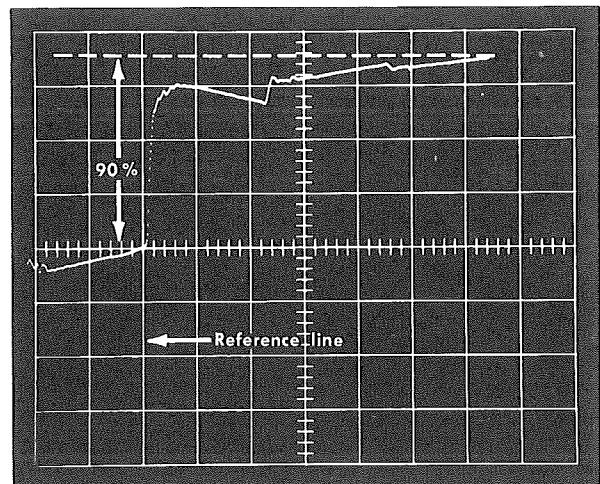

Fig. 3-13. Establishing the turn-off reference line from the 90% level of the switching-pulse trailing edge.
3. Readjust oscilloscope sweep rate to display the switching-pulse trailing edge as shown in Fig. 3-13. Horizontally position the display so the 90% level coincides with a convenient vertical graticule line. This establishes the turn-off reference line; therefore do not change the horizontal position of the display during the rest of this procedure. (For dual-trace test systems, use the signal connected to the Type 290 50 Ω INPUT MONITOR connector to obtain the display.)